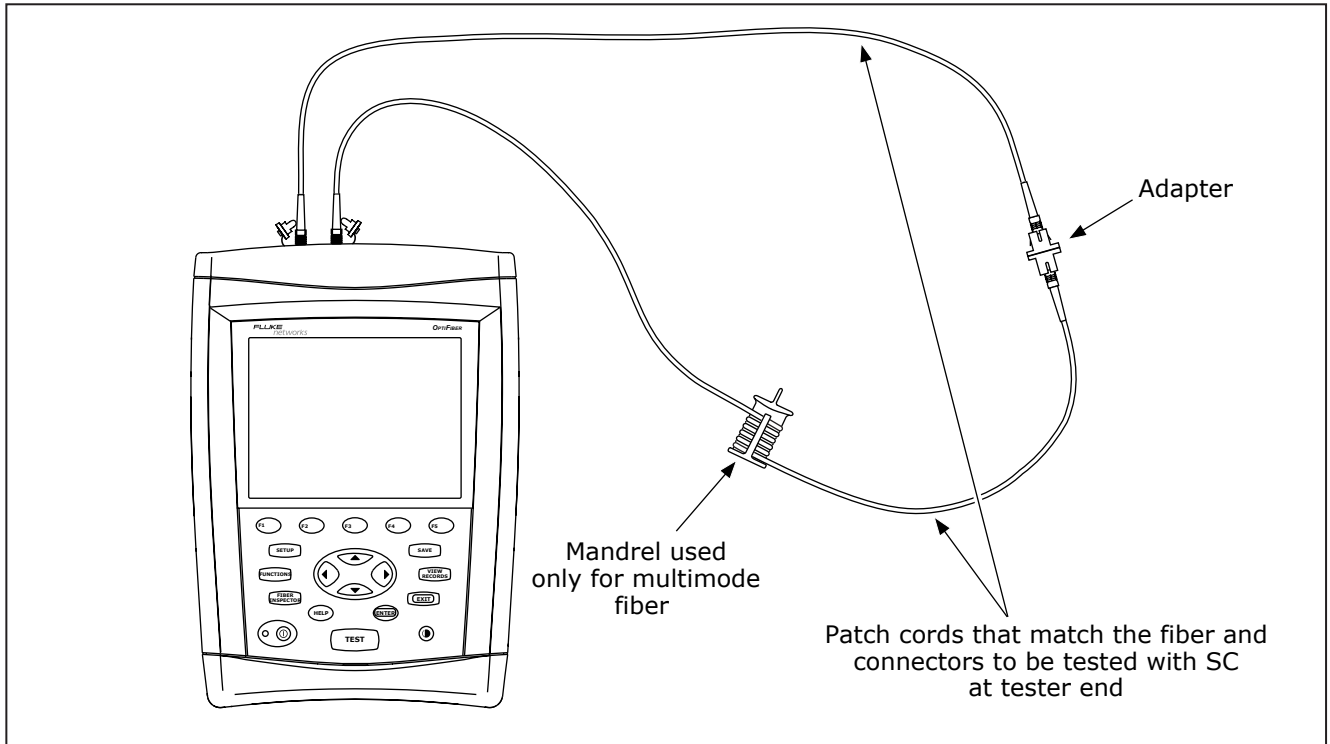

Figure 25. Loopback Mode Reference Connections
- 6 Press **FUNCTIONS**; then select **Set Loss/Length Reference**. Connect the reference patch cords as shown on the screen and in Figure 25; then press **ENTER**.